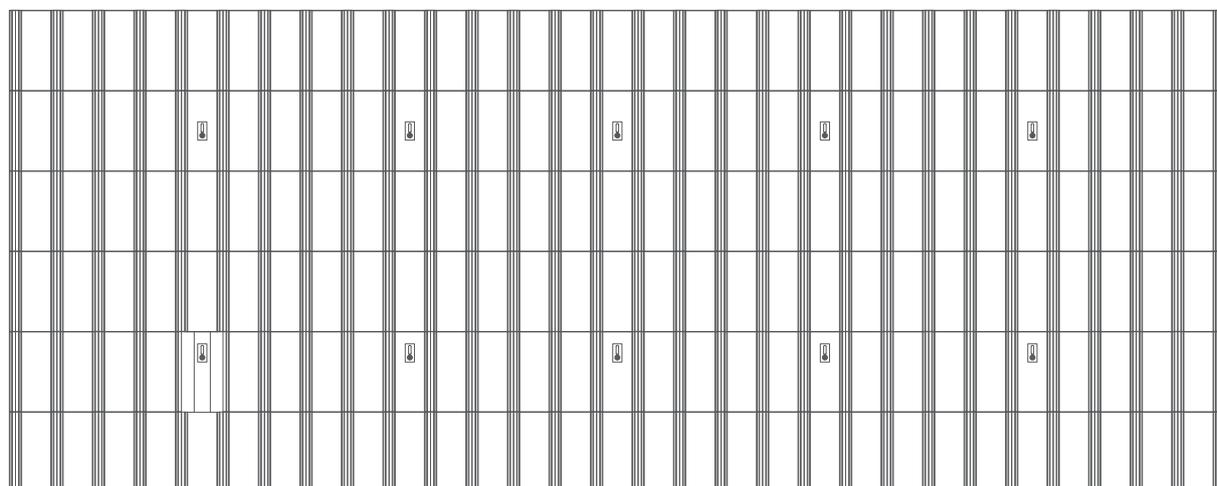

Fig. 3. determination of the location for the assembly of the load-bearing columns.
- 2 Before mounting, the place on the roof where the supporting structure of the photovoltaic modules will be fixed should be determined. For M10 screws, 97 mm drilling is required in advance at the mounting location, and for M12 screws, 38 mm drilling is required (Fig. 3).